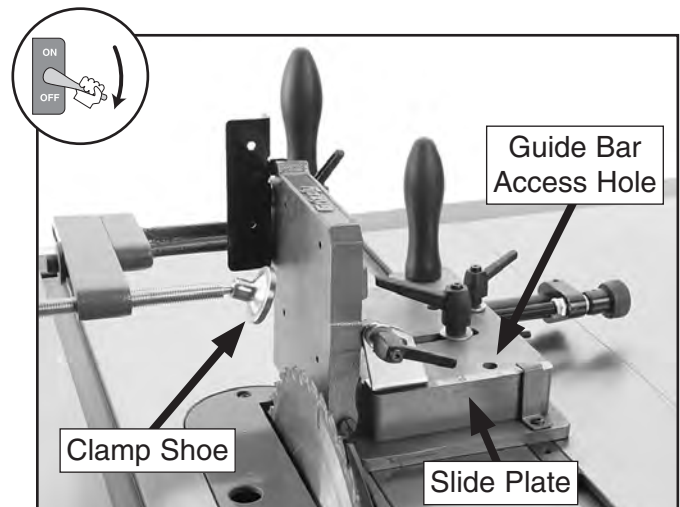

Figure 17. Checking for side support parallelism with the saw blade.
6. Loosen the slide plate and micro-adjust lock levers, then use the clamp handwheel to move the clamp screw and shoe out of the way for the next step (see **Figure 17**).
8. Use the micro-adjust knob to align the guide bar access hole of the slide plate over the cap screw of the guide bar (see **Figure 17**), then loosen the cap screw.